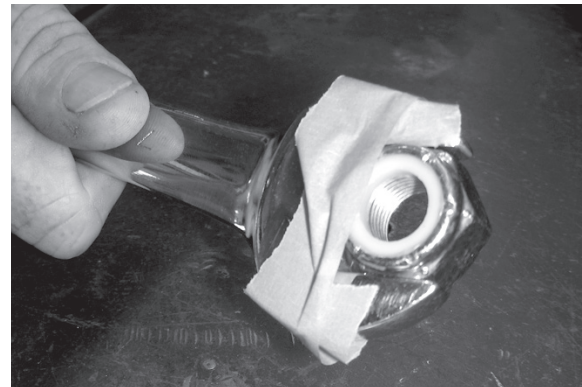

FIGURE 9
8. Thread a 5/8-18 lock nut on to each of 5/8 cap screws inserted in step 7. On the driver's side it may be difficult to access this area. One method to solve this problem is to tape the lock nut to your wrench as shown in Figure 9.